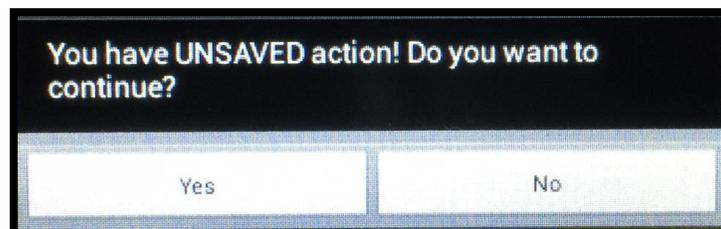

Figure 39
1. In the event the **Repeat Test** button is pressed a sub window will appear stating "You have UNSAVED action! Do you want to continue?" (See Figure 39)
- 1. In the event the **Load Preset** button is pressed a sub window will appear stating “You have UNSAVED action! Do you want to continue?” (See Figure 39)